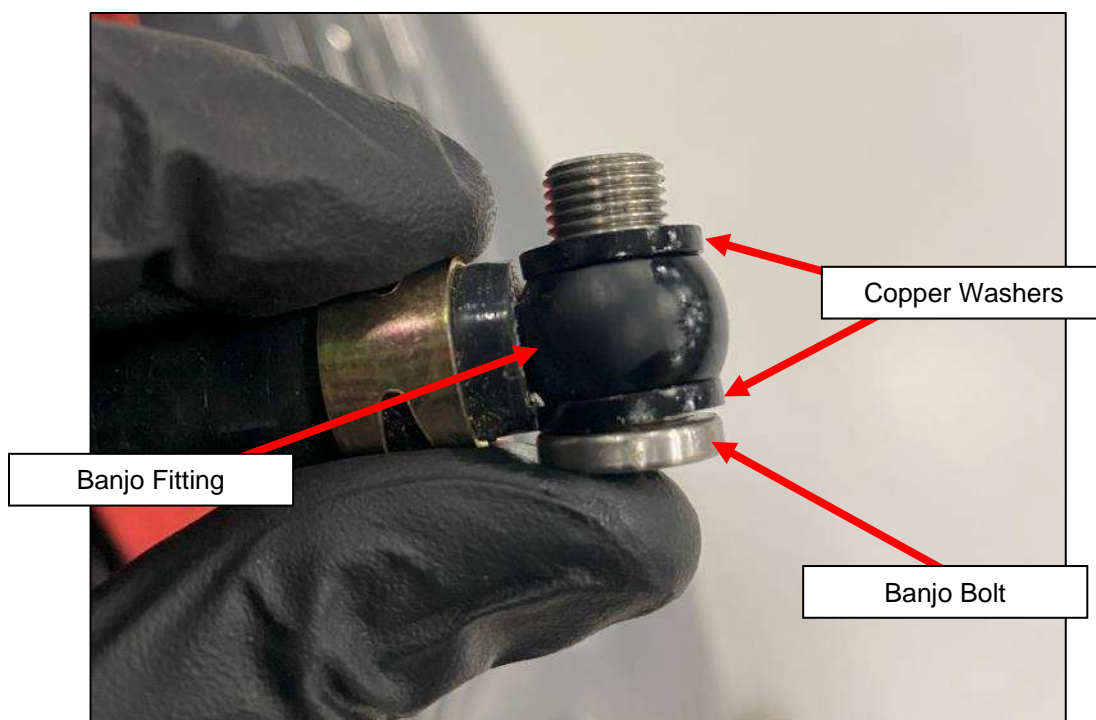

Figure 75
23. Locate the Banjo Bolt (#12) and (2) two Copper Crush Washers (#30). Install the Banjo Bolt into the Banjo Fitting with (1) one Copper Crush Washer on each side of the Banjo Fitting. *Figure 75.*